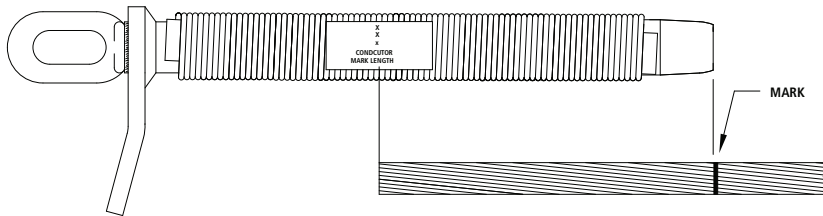
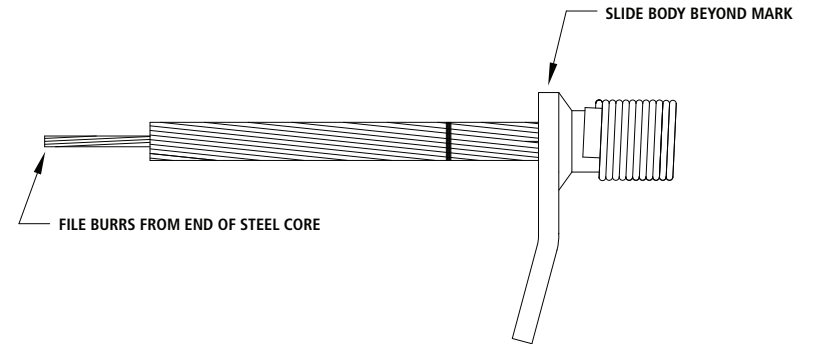

Fig. 1
Fig. 3
1. Remove "End Cap." Mark the conductor from label location to end of barrel. See Fig. 1.
3. Slide the Dead End over the conductor beyond mark made in Fig. 1. See Fig. 3.